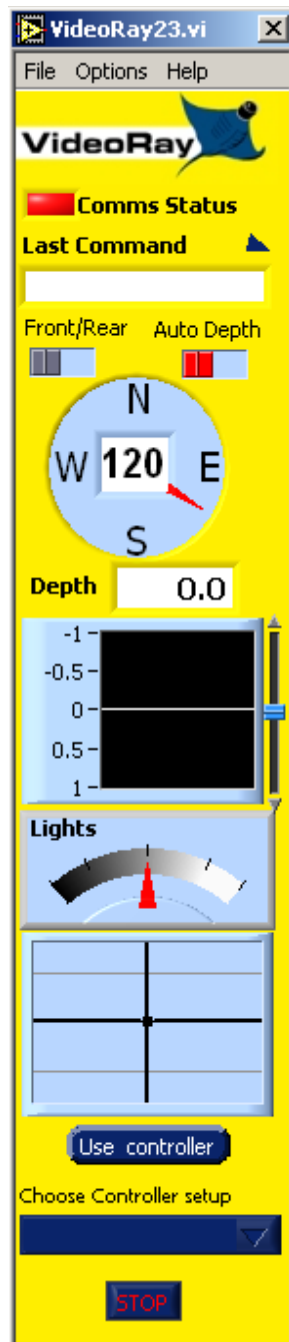

FIGURE 2.
5. Click on the **Continue** button to stop searching for a VideoRay. The dialog will close and the main window shown in Figure 2 will open. This capability allows you to configure your joystick/controller, or run the PC Pilot software as a network client, or in demonstration mode. See the sections on Network Mode or Demonstration Mode for more details.
5. Turn on the ICB. PC Pilot should detect the VideoRay and begin communicating with it. The dialog box in Figure 1 will close, and the PC Pilot main window shown in Figure 2 (in the previous chapter) will open.